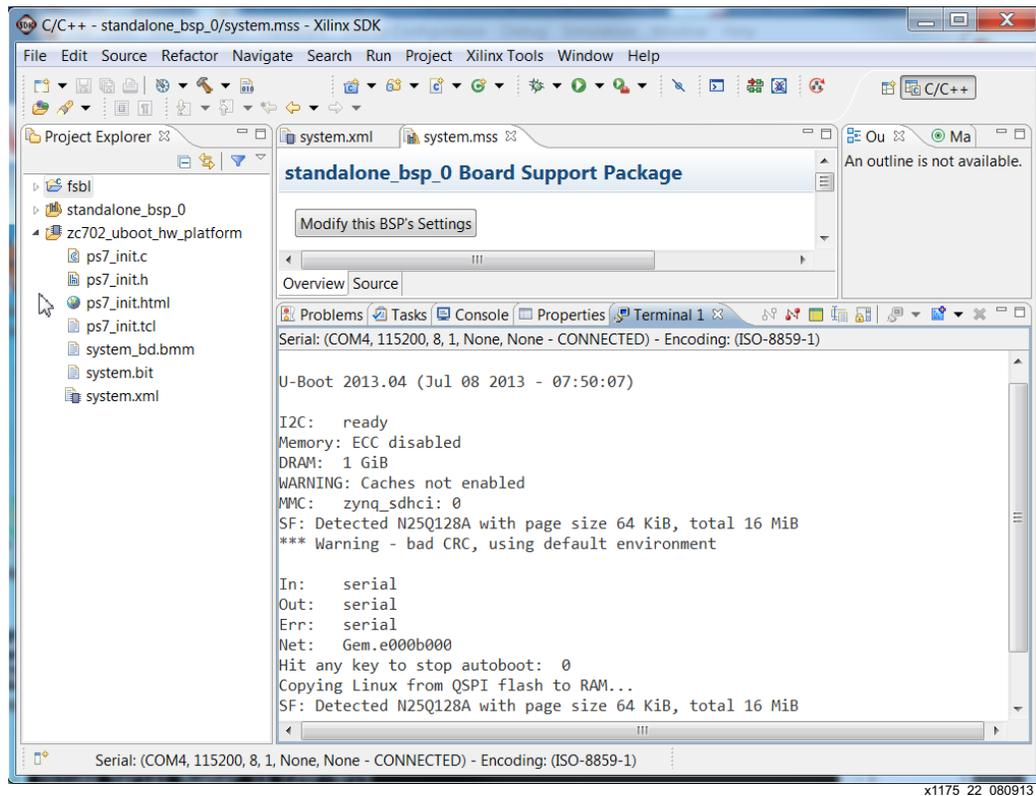

Figure 23: Communication Terminal Output after Running U-Boot Application
- Set the J20/22/25 switches to select the QSPI boot mode. Power cycle the board. Figure 23 shows the communication terminal output with the U-Boot prompt.